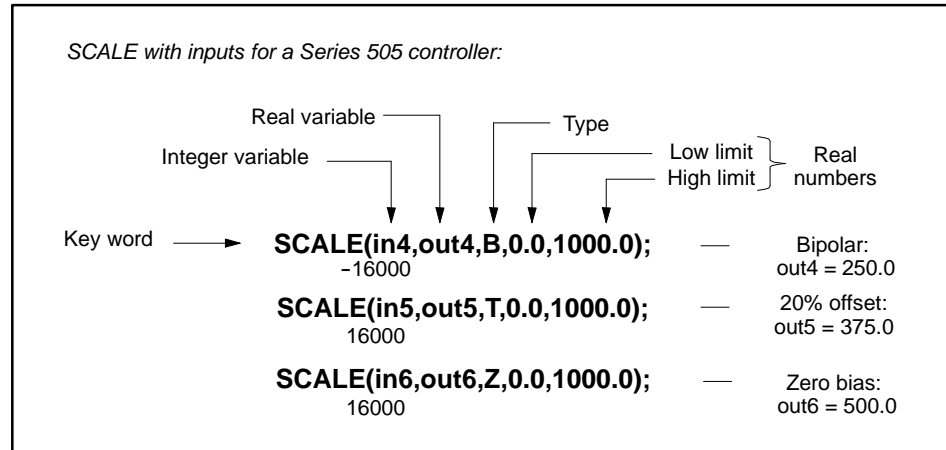
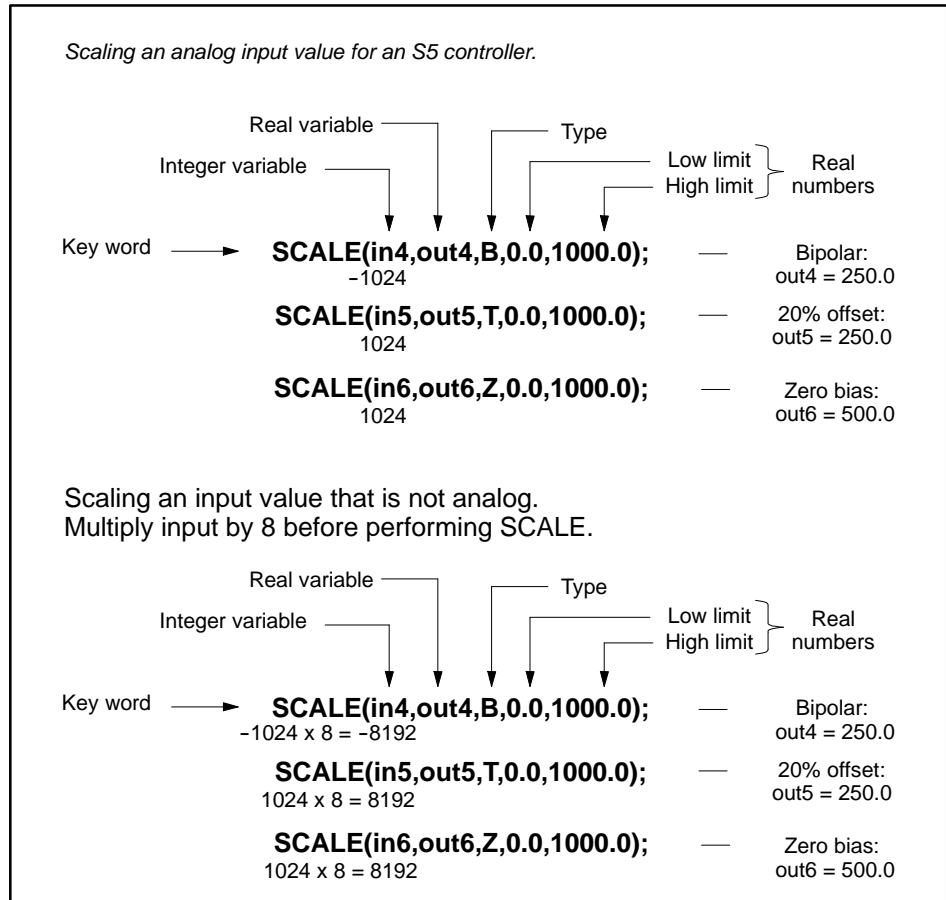

Figure 11-45 SCALE Procedure for Series 505
Figure 11-47 SCALE Procedure for S5
- The output variable is the real variable that stores the result of the SCALE procedure. See the examples in Figure 11-45 and Figure 11-47.
The operation of the SCALE procedure depends on the type of controller. For a Series 505 controller, SCALE simply takes the input value and converts it from an integer to a real value. See Figure 11-45.
If you want to scale something other than an analog input, you must compensate for the bit shift that is automatically performed when you use the SCALE procedure. Either use the scale CFB instead, since the CFB does not perform a bit shift, or else multiply your input value by 8 before you use the SCALE procedure. Do not use the LEFTSHIFT procedure; you lose the sign bit Figure 11-47 shows how to use the SCALE procedure for different types of input values if you have an S5 controller.